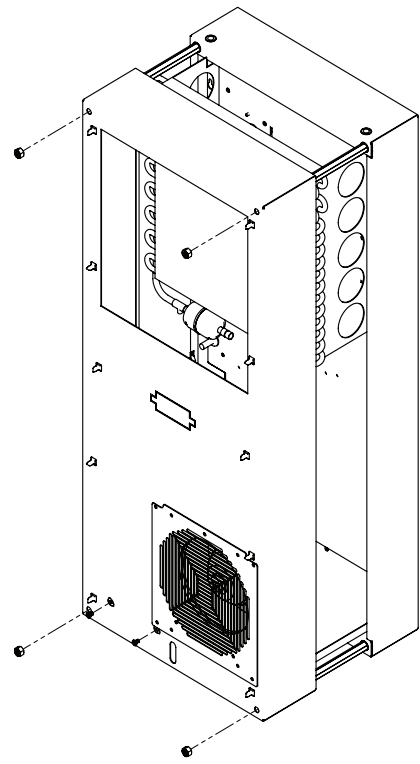

Figure 4
4. Remove the four nuts on the front panel and pull the panel assembly forward approximately 5 cm. See Figure 4 on page 12.